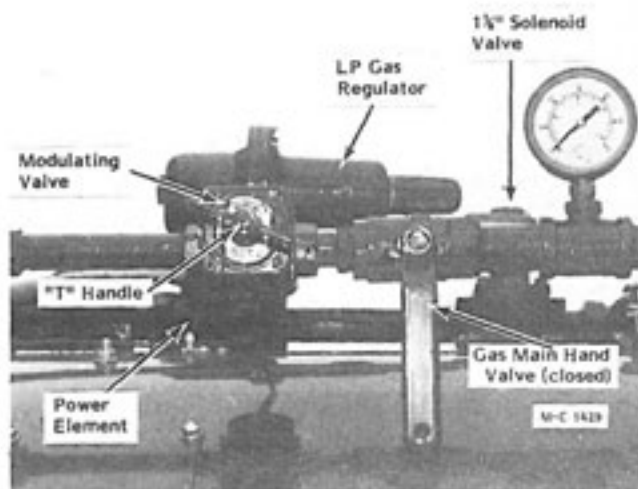

Figure 18 - LP Gas
- A. Check the LP Gas line coming out of the fan housing from the vaporizer coil to the pressure regulator with your hand, see Figure 18.
11. **LP Gas Only** - With the burner operating, check the reading on the gas pressure gauge in the manifold see Figure 18. It should be approximately 12 to 20 pounds (less in mild weather). If not, loosen the locknut on the pressure regulator adjusting screw, see Figure 18. Turn the adjusting screw IN to increase and OUT to decrease pressure.
2. Turn the "T" handle on the modulating valve IN to INCREASE temperature and OUT to DECREASE temperature, see Figure 18. There is a temperature gauge on the side of the control cabinet for each burner.